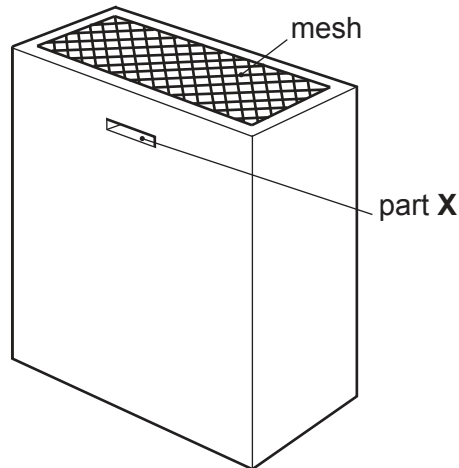

Fig. 4.1
- 4 Fig. 4.1 shows a wall mounted letterbox that is fitted to the outside of a house. It is manufactured from recycled aluminium.